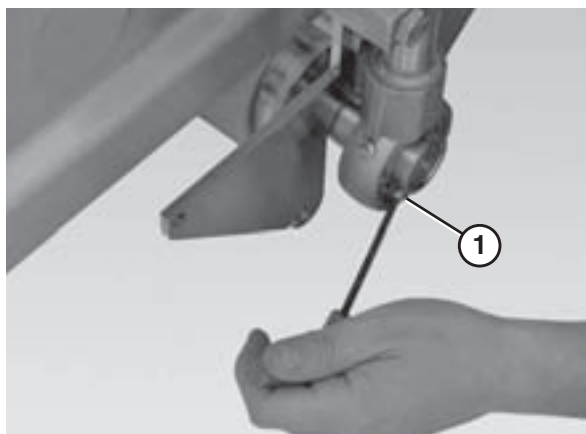

Figure 67
13. Use a 4 mm hex wrench to loosen the button head screws on the bearing (Figure 67, item 1).